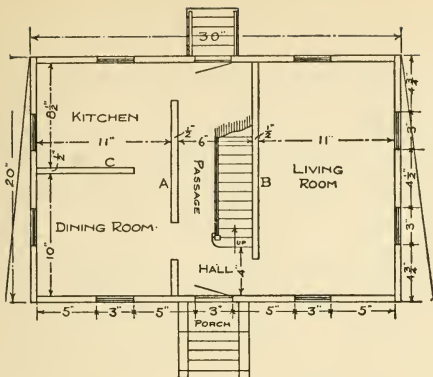

FIG. 65. FIRST FLOOR PLAN
As shown on the plans (Figs. 65, 66, and 67), the house described in this chapter is of three floors, containing nine rooms, and is in size, thirty inches wide, twenty inches deep, and three feet high.
**Lay the First Floor**, allowing but one-half inch of the boards to bear on the frame on all sides. Then lay off the first-floor plan (Fig. 65) upon this floor with a pencil and square, locating the partitions by means of the dimensions given on the plan.